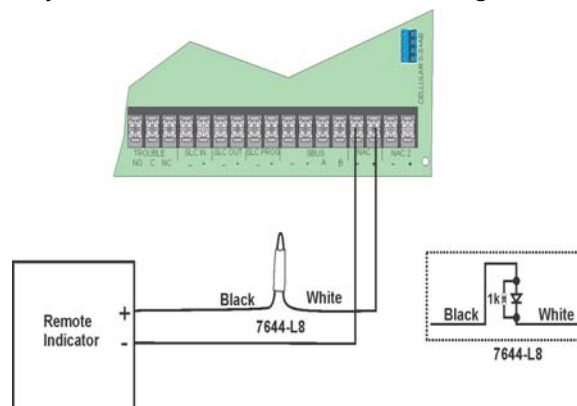

Figure 4.52 Polarity Reversal Connection Using the 7644-L8
- Wire the 7644-L8 to the control panel as shown in Figure 4.52. Do not install an EOL resistor on the terminals of the NAC circuit used.